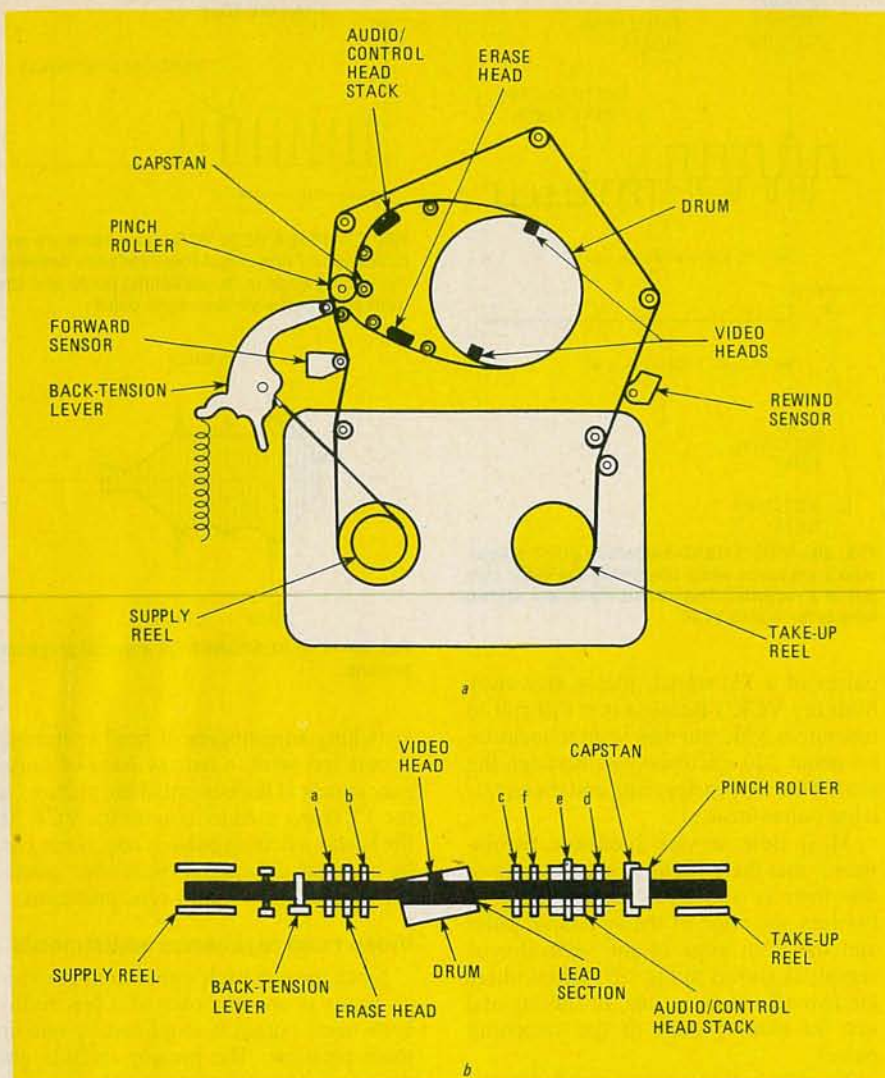

FIG. 22—TAPE PATH for a Beta VCR. Note that the location of the screw adjustments mentioned in the text are shown in *b*.
Figure 22 shows the tape path for a typical Beta VCR. Clean the drum surface and each tape-guide surface with a soft cloth moistened with alcohol. When
The tape path for most VCR's is critical to proper operation. For that reason, the position and height of the tape guides and heads are precisely adjusted at the factory. Since those components greatly affect normal tape running, never touch them unless necessary. First check operation of the VCR using an alignment tape and a known good monitor or TV. If the playback is good, quit while you are ahead. If you have playback problems, then (and only then) make the following adjustments (which are typical for VCR's with a tape path similar to that shown in Fig. 22).
4. Observe the running state of the tape around the back-tension lever (Fig. 22). If you see any slack at the top or bottom edges, slightly bend the back-tension lever (with the appropriate tool) to
5. Adjust screw B (see Fig. 22-b) so that the top edge of the tape does not hit against the guide at the side below the screw.